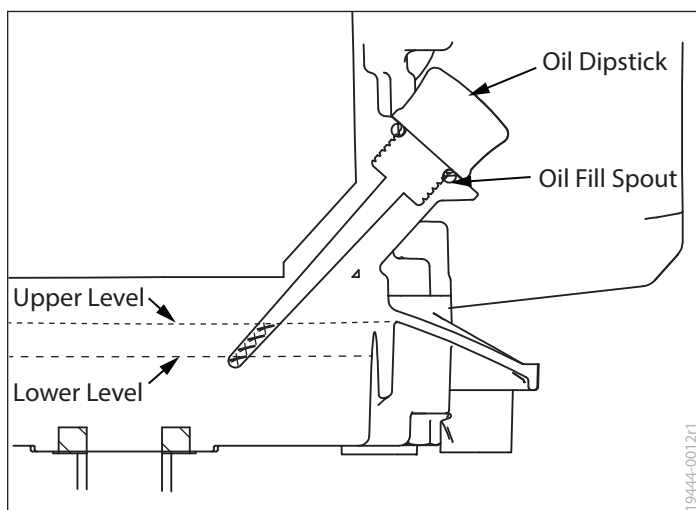

FIGURE 4: Filling Engine with Fuel and Oil.
1. Remove the oil dipstick. Fill the crankcase to the **FULL** line on dipstick. **DO NOT OVERFILL. SEE FIGURE 4**